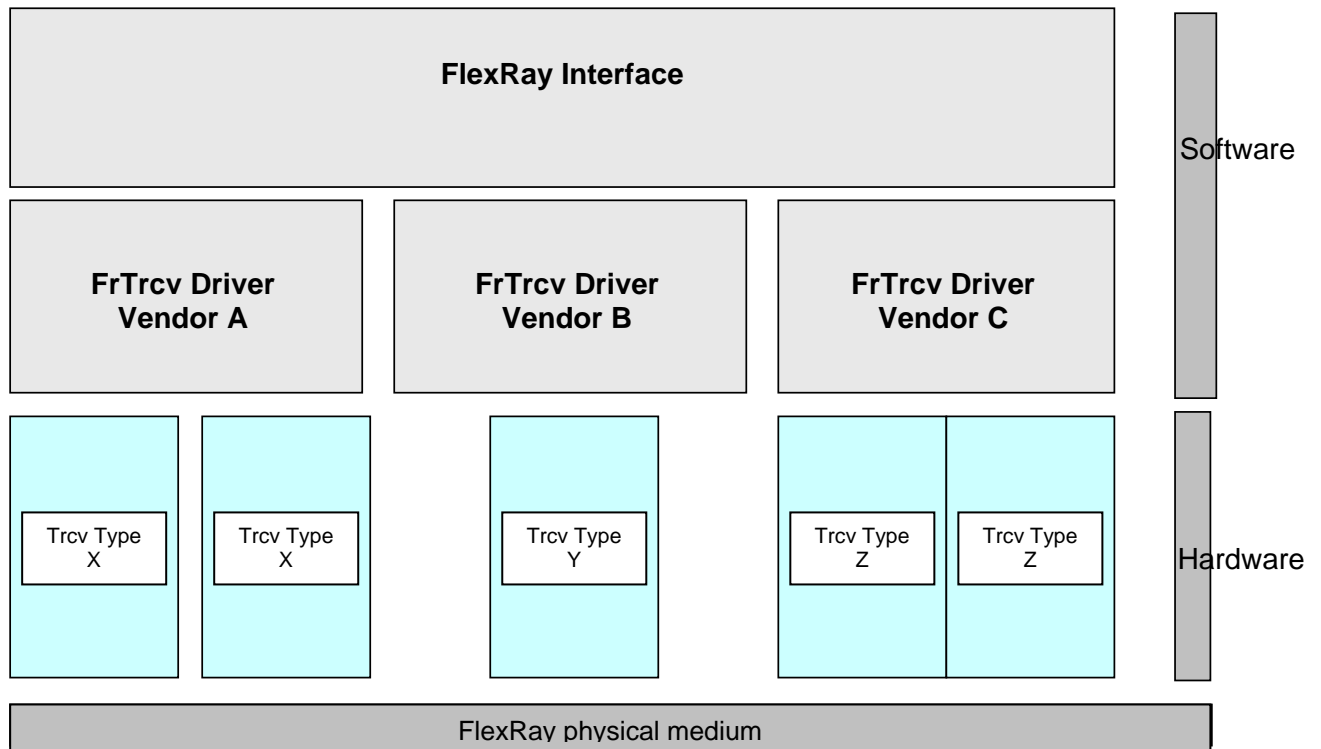

Figure 1: Description of the basic structure of the FlexRay Stack
Figure 1 depicts the basic structure of the FlexRay stack. One FlexRay Interface accesses several FlexRay Transceivers (Trcv Type X .. Z) using one or several FlexRay Transceiver Driver(s) (FrTrcv Driver Vendor A...C) from different vendors. A zero based index (FrTrcv_TrvcIdx) identifies the transceiver within the context of the transceiver driver:
E.g. FlexRay transceiver node A of FlexRay transceiver type Z is addressed by the index 0, node B by the index 1 in the example in Figure 1.